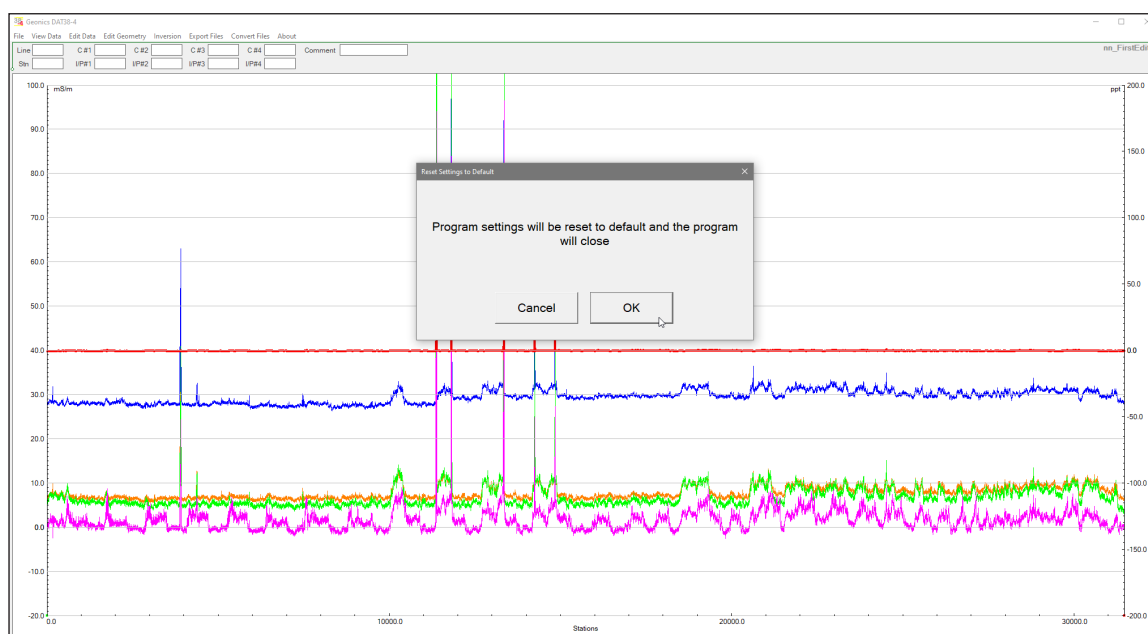

Figure 3.12 Reset Settings to Default dialog
- Select **File | Reset Parameters to Default** (Figure 3.12).